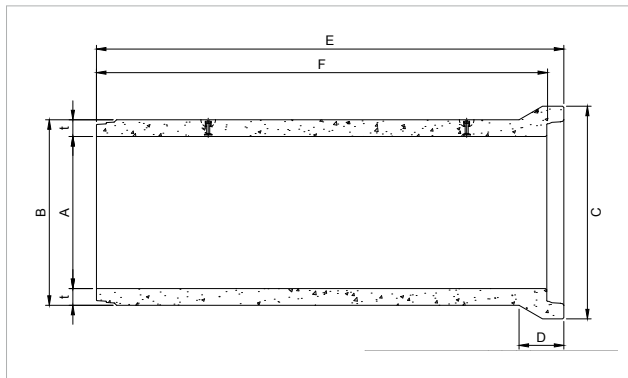

FIG. 5 BSJ Pipe Geometry
1. Assuming that pipes are installed with the nominal laying gap given in Tables 1 and 2, the allowable deflections are determined by the amount of concrete to concrete overlap remaining after the tabulated offset. Refer to figures 5 and 6.